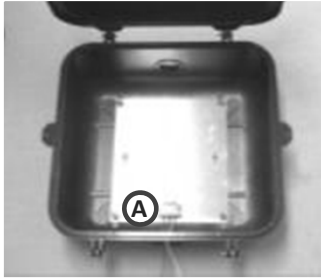

Figure 1
- Step 1** - Remove existing pedestrian glass legend and reflector assembly/unit from housing. Disconnect original conductors from the terminal strip inside the housing (Figure 1).